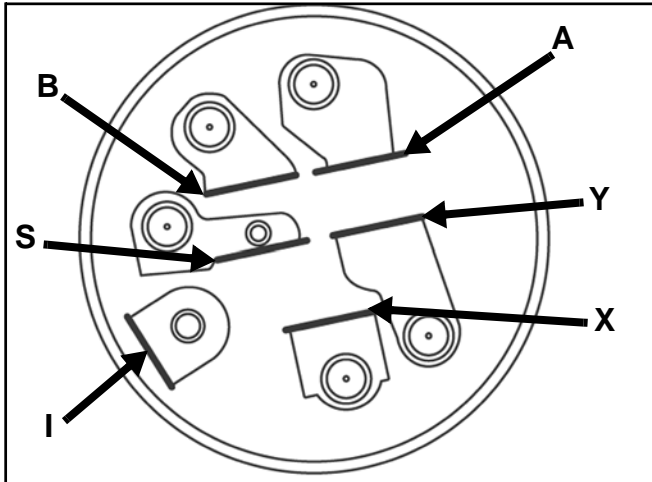

Figure 28
2. Verify that continuity exists between the terminals listed for the switch position. Verify that there is NO continuity between terminals not listed for the switch position (Figure 28).